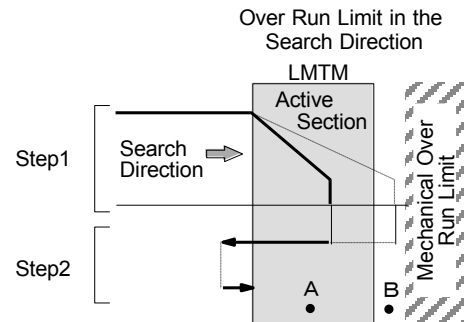

Fig. 2.5-16 Operation of Example 2 Automatic Home Search
- b. The automatic home search position is not beyond the limit signal active section in the search direction (B in Fig. 2.5-16).